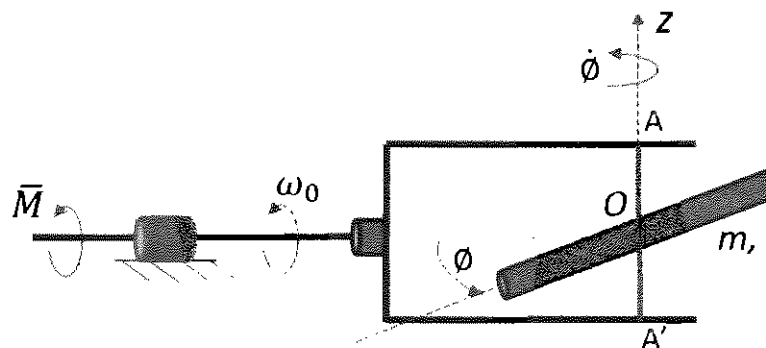

Figure 2 – Spinning Slender Rod in Rotating Yoke
- Center the coordinate system attached to the rigid body (rod) at O in a convenient orientation, where the x -axis is along the pointed direction shown Figure 2. Draw a clear schematic. **1pt**